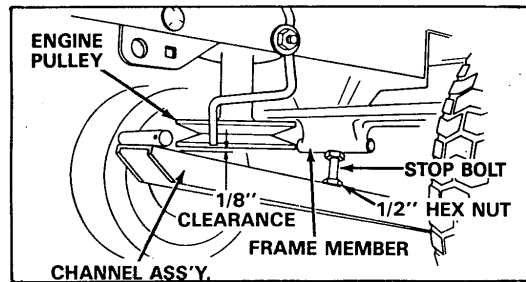

FIGURE 8
5. Adjust 1/2 x 2-1/4" stop bolt, previously assembled into channel assembly (step 2). See figure 8. Adjust hex nuts, above and below channel to provide approximately 1/8" clearance between channel and the tractor engine pulley with the stop bolt positioned against frame member. See figure 8.